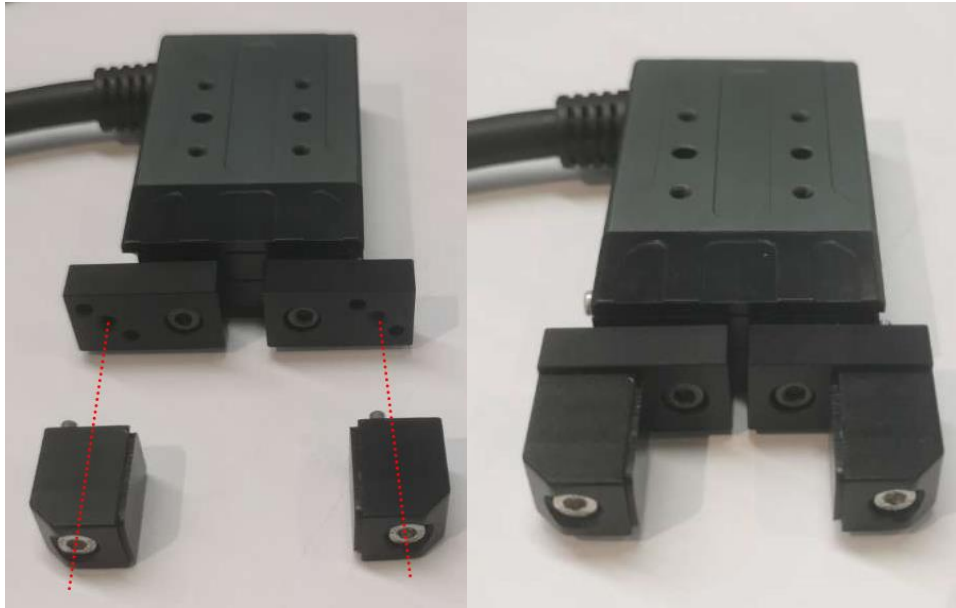

Figure 2.5 Install the end of gripper
Step 3 Install the end of the gripper and tighten the screw, as shown in Figure 2.5.